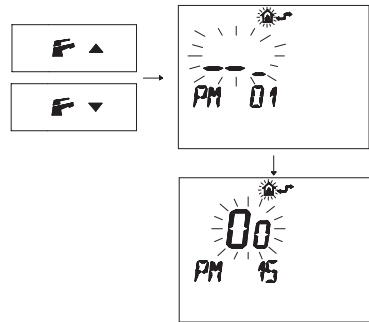

Fig. 7.13
- Press buttons **F** or **F** to display the "PM15" program that enables the external probe (Fig. 7.13).